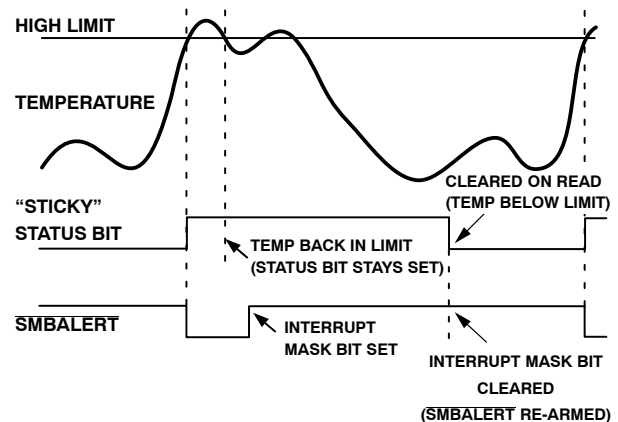

Figure 31. How Masking the Interrupt Source Affects $\overline{\text{SMBALERT}}$ Output
7. Periodically poll the status registers. If the interrupt status bit has cleared, reset the corresponding interrupt mask bit to 0. This causes the $\overline{\text{SMBALERT}}$ output and status bits to behave as shown in Figure 31.
The interrupt mask registers allow individual interrupt sources to be masked out to prevent $\overline{\text{SMBALERT}}$ interrupts. Note that masking an interrupt source prevents only the $\overline{\text{SMBALERT}}$ output from being asserted; the appropriate status bit is set normally (see Figure 31). Full details of the status and mask registers associated with each measurement channel are detailed in Table 27 and Table 44.